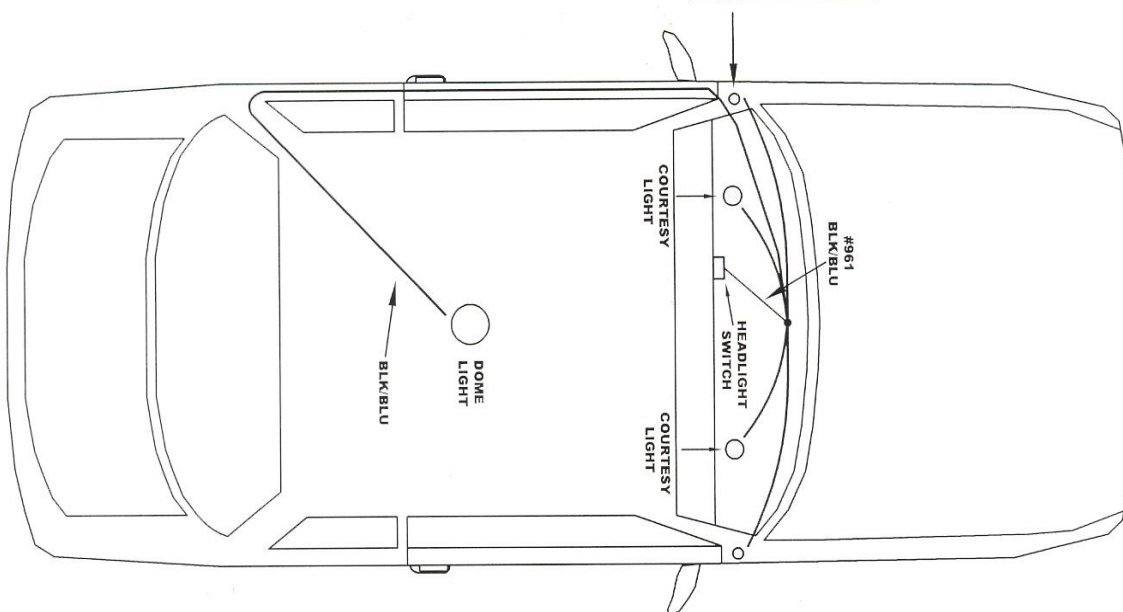

Figure 8-2 Interior Lighting
- 8.2.1** Interior Lights are switched through the door switches and the dash panel light switch. These switches apply power to the circuit. See **Figure 8-2**.